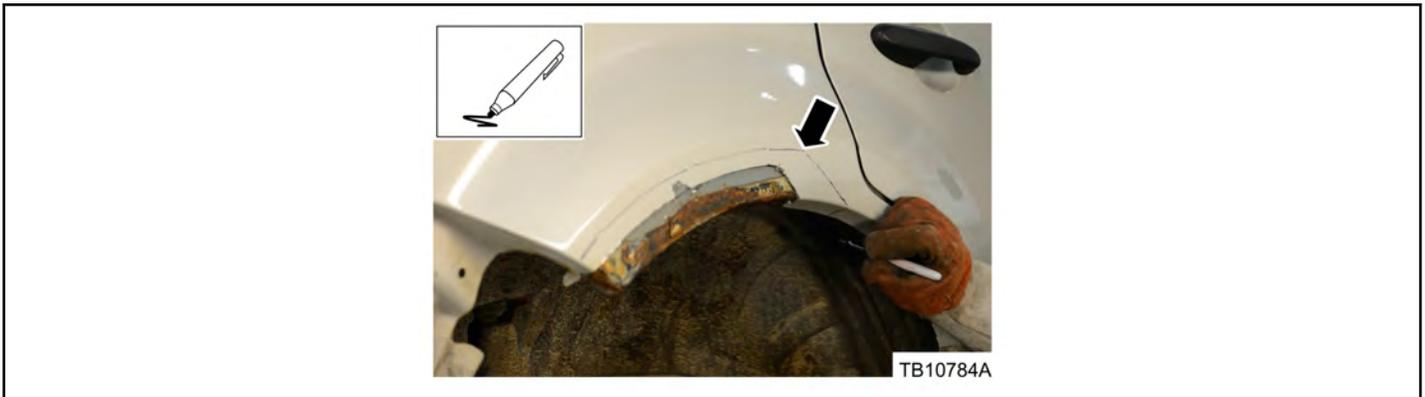

Figure 2 - Article 15-0157
8. Inspect the inner panel for corrosion. If any inner panel corrosion extends beyond the initial cut performed on the outer panel, trace another line on the outer panel beyond the corrosion area of the inner panel. (Figure 2)